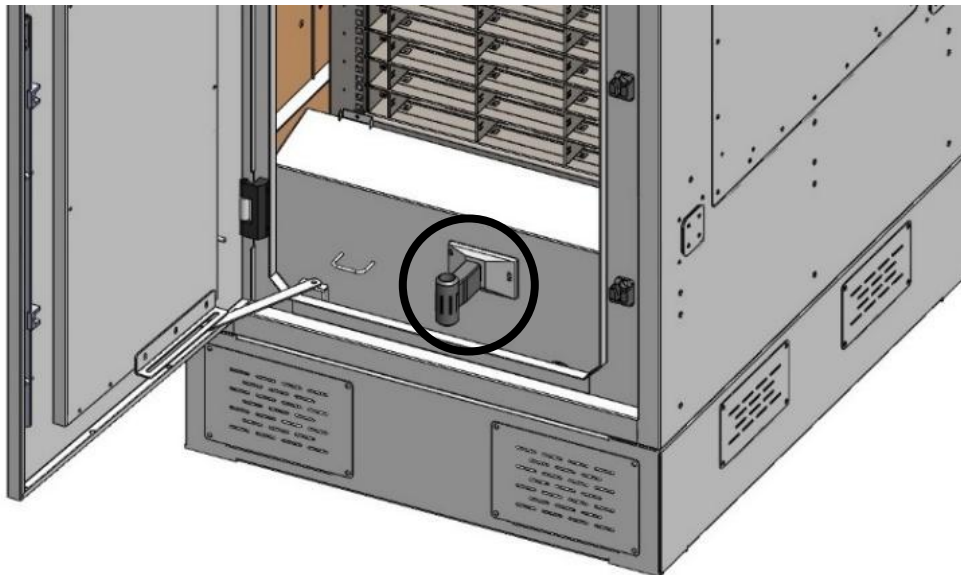

Figure 25 –Main Switch Handle slid onto the main switch
- b. Slide handle onto main switch's switch (Figure 25).